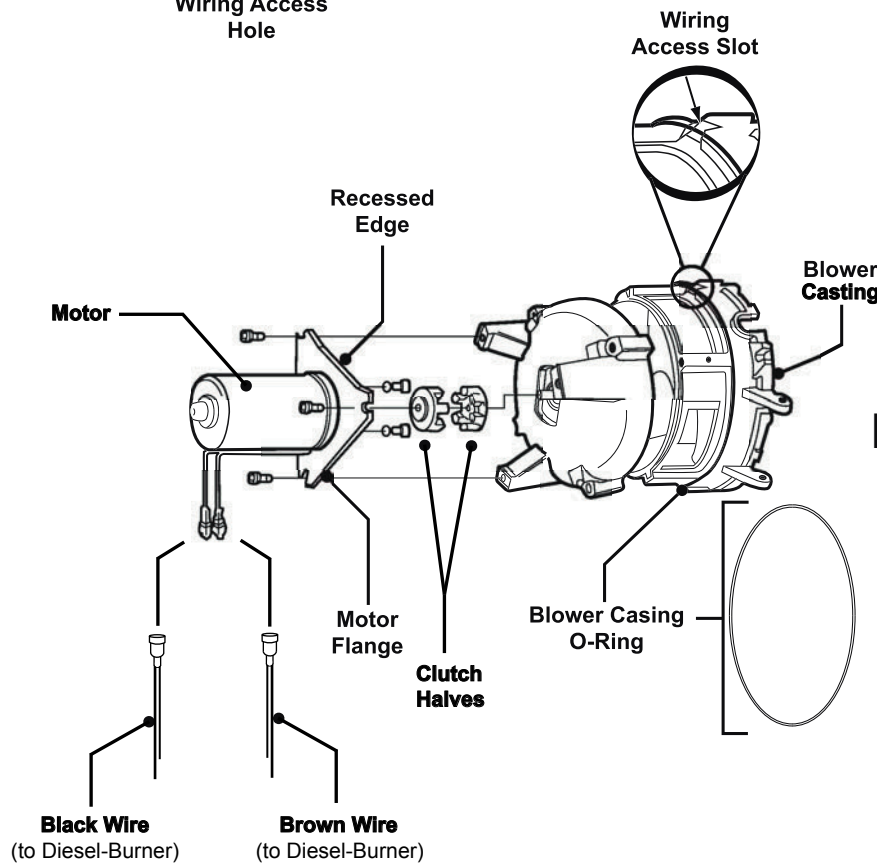

Figure 14
- B:** The *Motor* must be mounted to the flange with the *wires* and drain hole pointing downward and the recessed edge of the *Motor Flange* pointing upward; reference Figure 14. This will ensure a proper *Protection Housing* fit.
4. Reinstall a *Clutch Half* on both the new *Motor's* shaft and the Combustion Air Blower's shaft. Attach the *Motor* and the flange assembly, with the recessed edge of the *Motor Flange* in-line with the Wiring Access Slot of the *Blower Casting*, to the *Blower Housing* with the three *Hex Head Screws*; reference Figure 14.
NOTE: Inspect the Blower Casing's *O-Ring* for damage or wear prior to reinstalling the Diesel-Burner Head's *Protection Housing*; reference Figure 14. If damage or wear exists, replace the *O-Ring*. Reference the Aqua-Hot's "Parts Manual" for spare parts information.